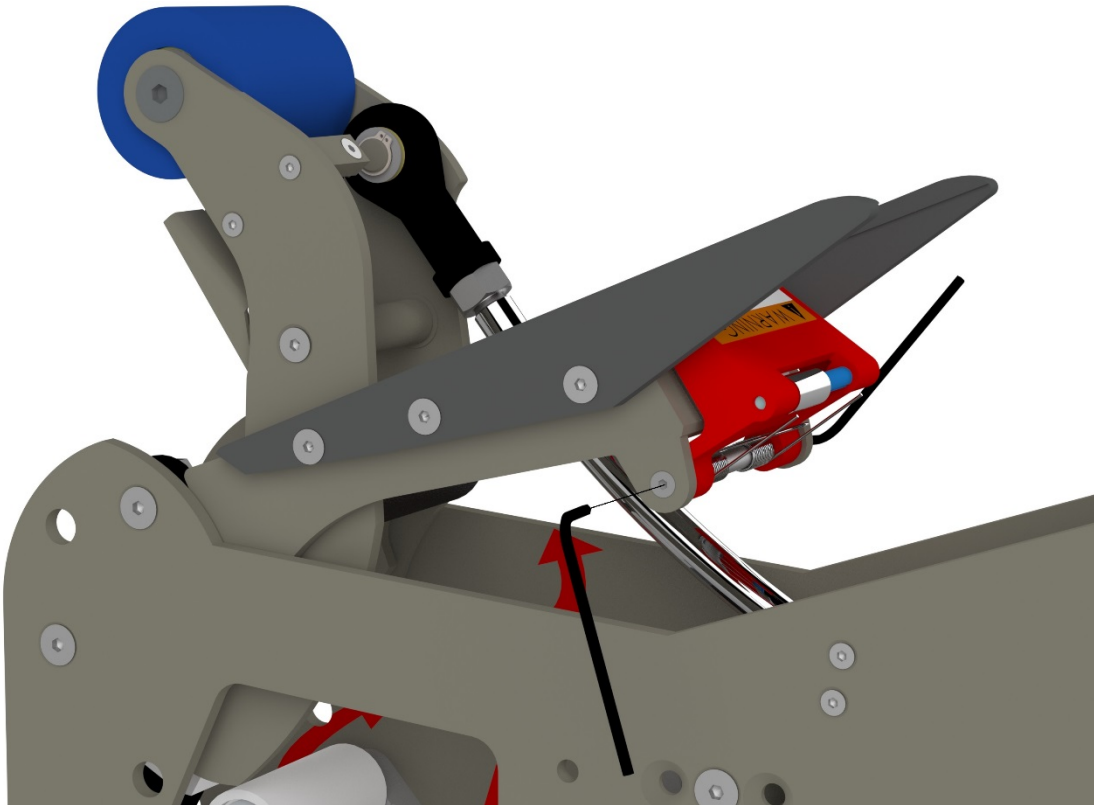

Figure 10-17
1. Apply some (purple) Loctite 222 to the threads of the M3 screw and fasten to the end of the cross shaft. Tighten using two 2mm hexagonal keys as shown in **Figure 10-17**.